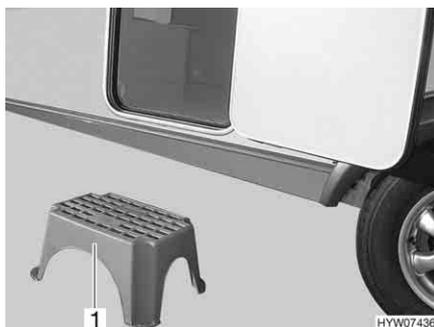

Fig. 24 Entrance step (free-standing)
- Place the entrance step (Fig. 24,1) in front of the entrance to the caravan.